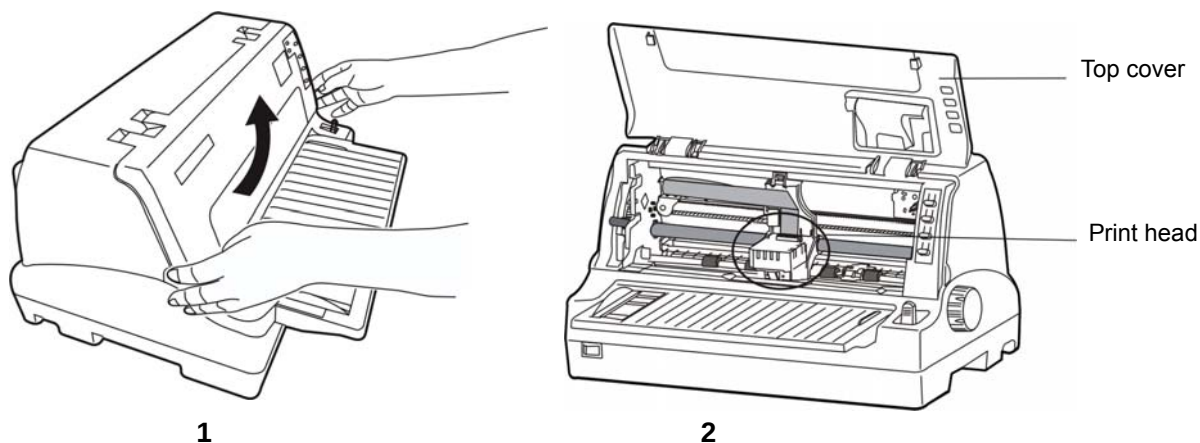

Figure 2-8 Opening the top cover
2. Hold the concaves of the top cover to open the printer cover. (As figure 2-8 shown)
4. Slide the print head to the middle of the printer. (As figure 2-8 <2>shown)